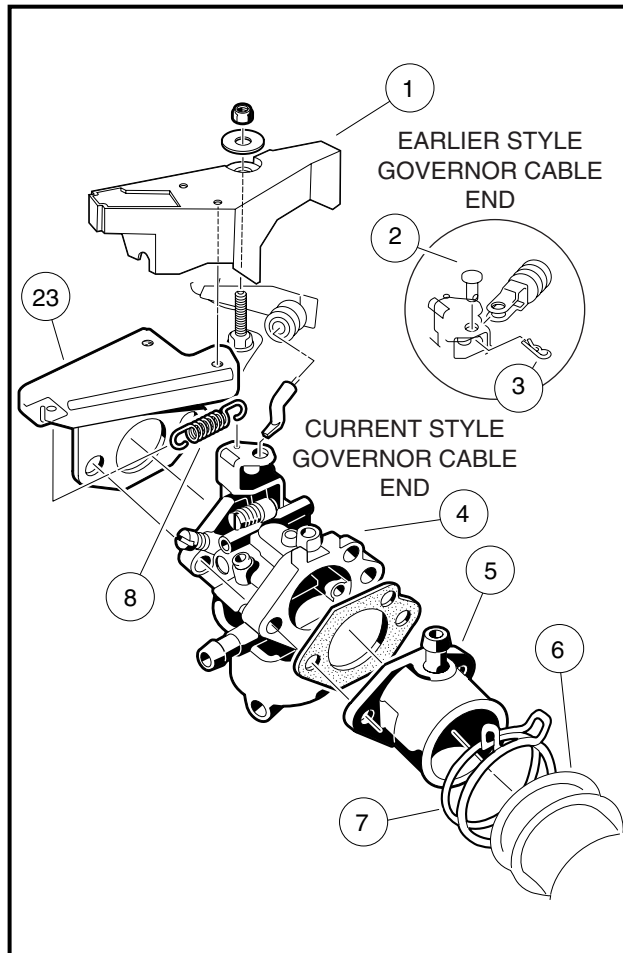

Figure 2-1 Carburetor Removal
1. Remove governor guard (1) (**Figure 2-1, Page 2-5**).
- 2.1. Remove cotter pin (3) and clevis pin (2) from throttle valve lever (**Figure 2-1, Page 2-5**).
- 3.1. Remove the 'Z' shaped cable end from the throttle valve lever (**Figure 2-1, Page 2-5**).
4. Remove nuts at carburetor intake pipe (5) and remove intake pipe (**Figure 2-1, Page 2-5**). See following **CAUTION**.
5. Remove carburetor (4) along with throttle spring (8) and throttle spring bracket (23) (**Figure 2-1, Page 2-5**).